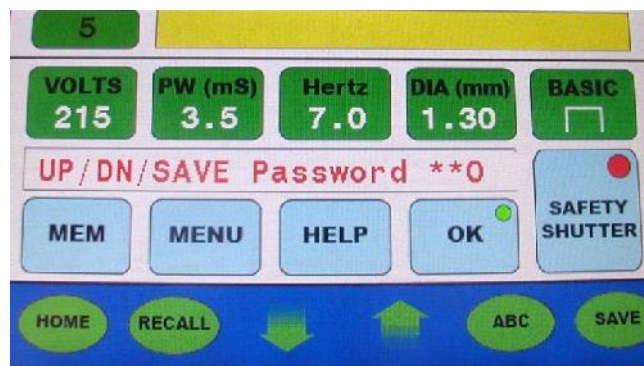

Figure 8
- Press “MENU” on the Password Screen and a (*) will be loaded into the second digit and the third digit “0” will start to blink (**Figure 8**)